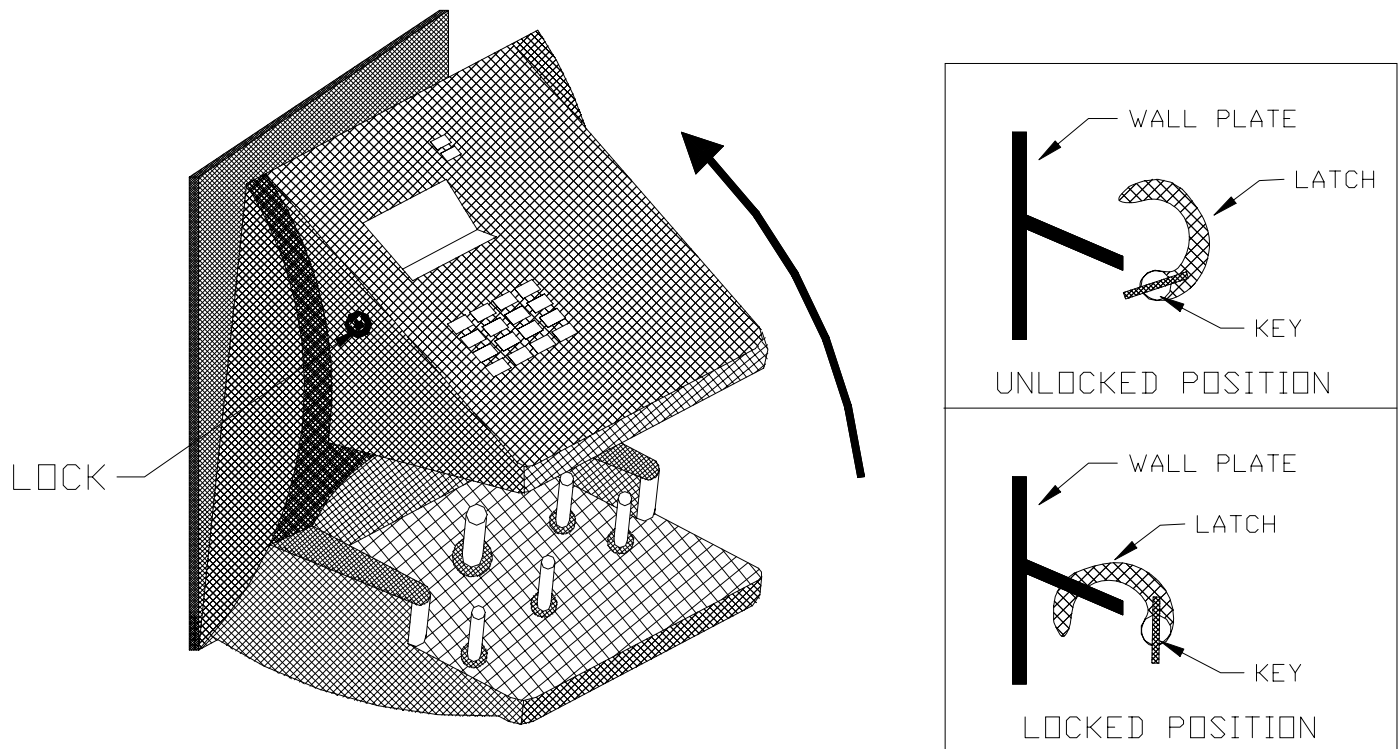

Figure 11.
20. With the key in the unlocked position, rotate the HandReader back upright. Turn the key counter-clockwise to lock the HandReader into place. See figure 11 below.